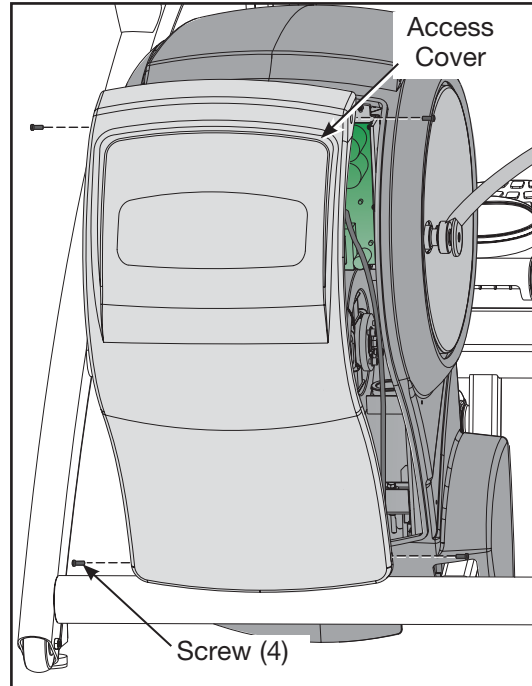

Figure 2
- B. Remove the two upper screws securing the access cover. See Figure 2.
- B. Tighten the two lower screws, removed in step 3A. ***NOTE: Do not over tighten screws. See Figure 2.***